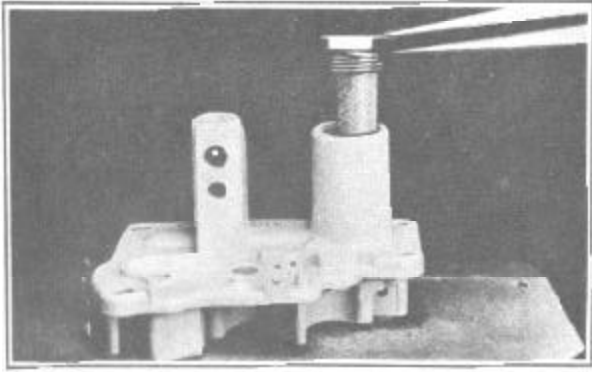

FIGURE 29
3. Install strainer and strainer nut and gasket assembly, Figure 29.